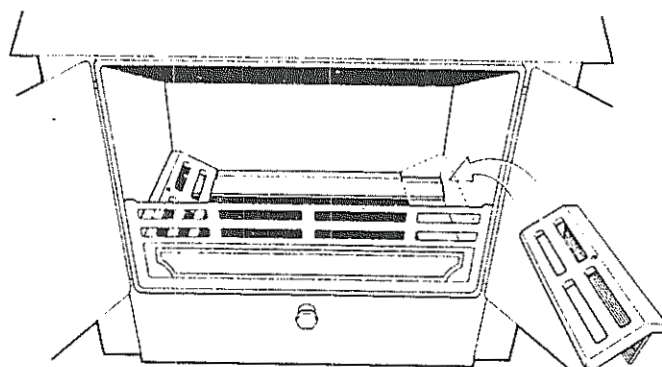

Fig. 4 Location of side and back fireplates
2. The plates round the sides and back of the grate must be in position and sitting correctly. (See figure 4).